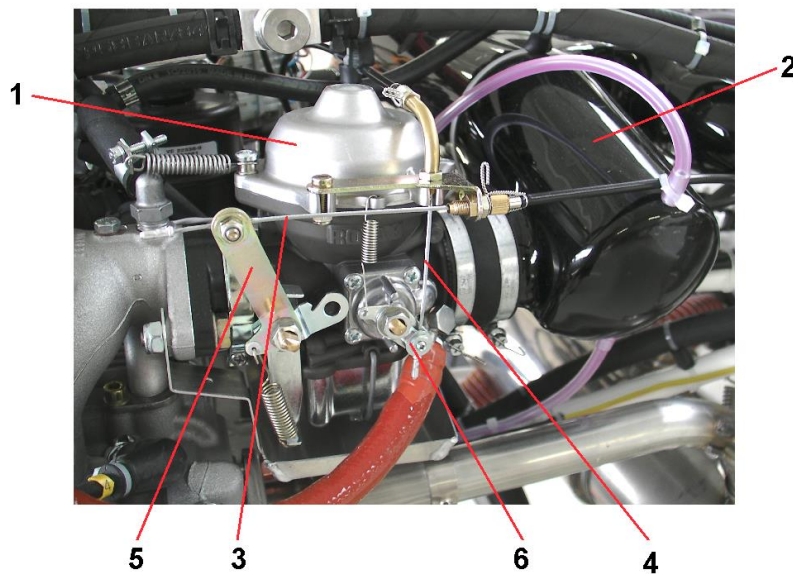

Fig. 10-10
- (k) Connect control cables of the choke and the throttle on the carburetor control levers according to the Fig. 10-10. Adjust the throttle control (see 10.4.2) and the choke control (see 10.4.3).